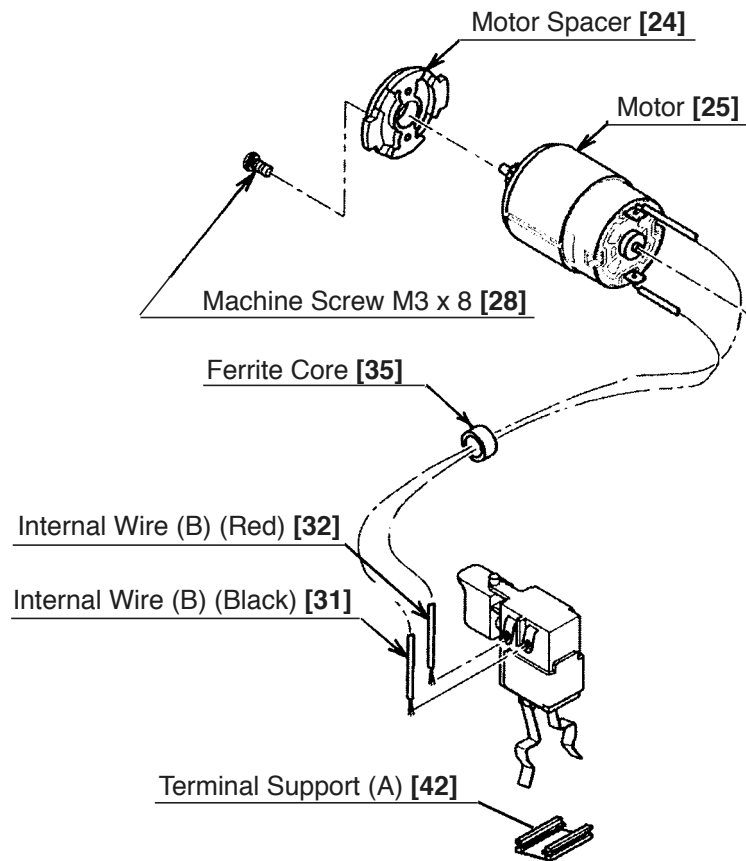

Fig. 7
(1) Reassembly of the power supply unit
- (a) Perform wiring according to the wiring diagram (Fig. 7).